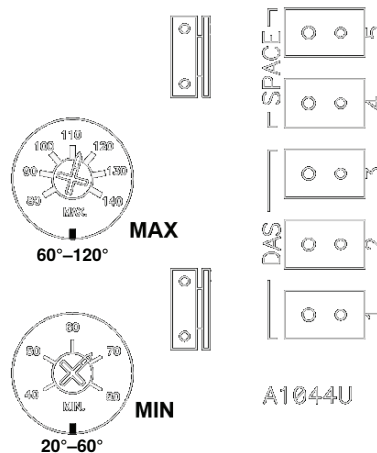

Figure 66. Temperature Dial Labels
- (1) Select temperature range labels included with amplifier and adhere under temperature dials as follows and as shown in Figure 66: for sensor TS144C, change **MIN** label to **20°–60°** (no change to **MAX** label) and for sensor TS144E, change **MIN** label to **20°–60°** and **MAX** label to **60°–120°**.